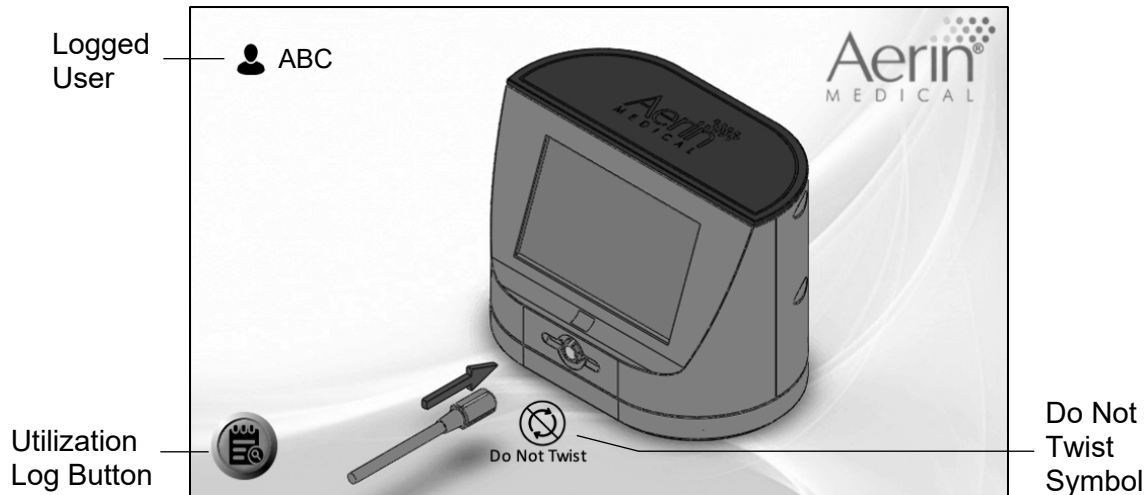

Figure 3.4 Standby Page
- Back Button – Goes to Standby Page (see Figure 3.4) if no Stylus is connected.
The Console will enter Standby mode if the system has no faults and no Stylus connected. The “Standby – Insert Stylus” image can be seen at the screen (Fig. 3.4). The start button & Foot Switch are disabled.